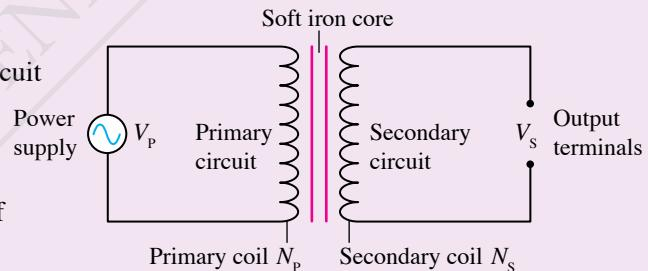

Figure 4.31
- Examine Figure 4.31 that shows the circuit diagram for a simple transformer.